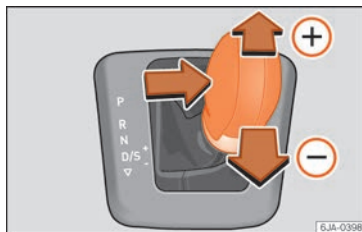

Fig. 218 Selector lever: Tiptronic.
- Push the selector lever gently forwards **➡** **»» Fig. 218.**
- Push the selector lever gently backwards **⬅** **»» Fig. 218.**